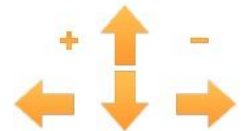

Fig. 33 - View panel
- **'View panel'** - opens the view control panel: arrows, with which you can move the camera, and a buttons to zoom in **+** and out **-** (Fig. 33). Disabled icon is grey, enabled is orange (disabled is default).